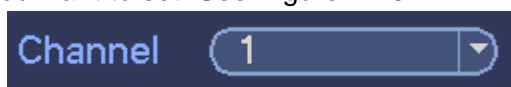

Figure 4-29
- Step 1 Select a channel you want to set. See Figure 4-29.